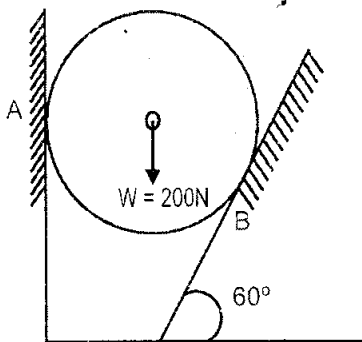

Figure 2
2. (a) A smooth sphere weighing 200N is resting as shown in Fig. 2. Determine the reactions at the supports. [10]